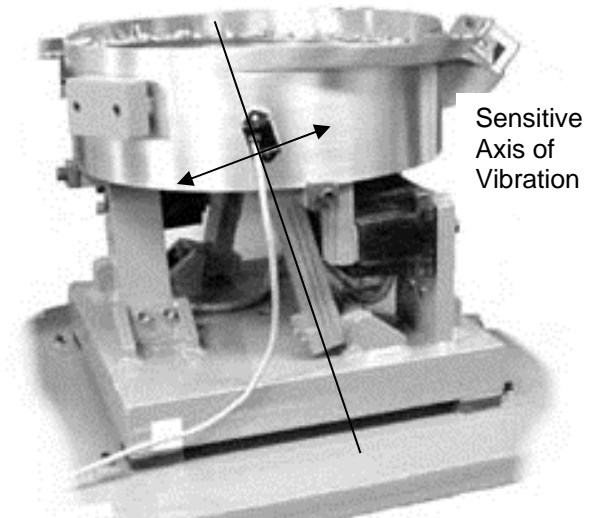

Fig. 2 The arrow shows the direction of vibration which is at a right angle to the spring pack.
A. ORIENT THE SENSOR so that its sensitive axis is in the same direction as the vibration of the feeder. The double-ended arrow in figure 1 shows the sensor's sensitive axis. Align the sensitive axis of the sensor in the same direction as the vibration (see figure 2). The sensor must be oriented correctly for proper operation.
Use a cable tie and an adhesive-backed mount to attach the sensor cable to the side of the drive base. See Figure 2. Clean the mounting area before applying the adhesive-backed mount.